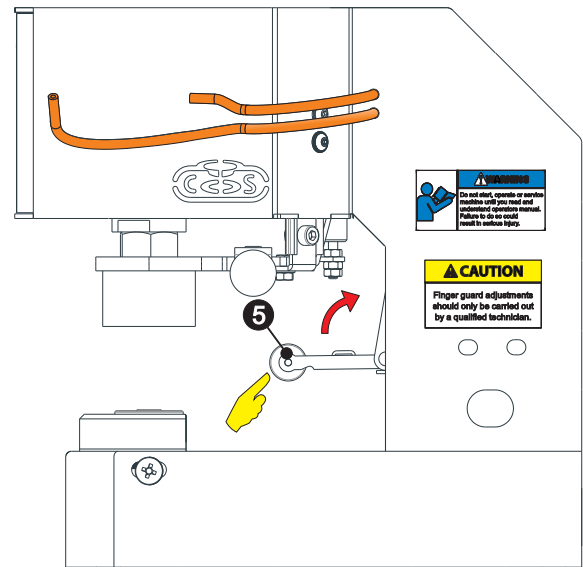

fig. 94
Push the roller ❺ of the valve up manually in the arrow direction as shown in (fig. 94).